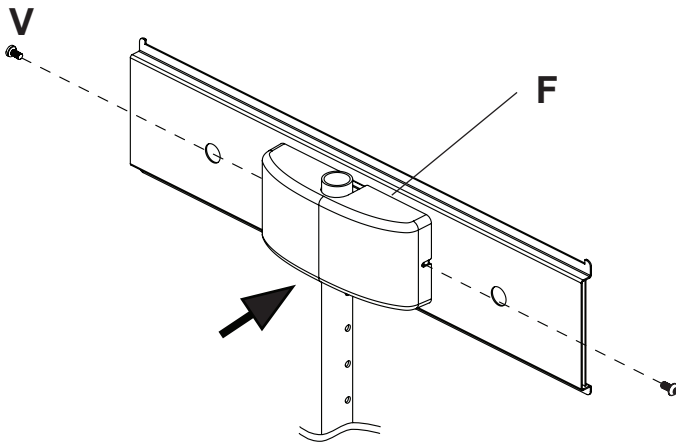
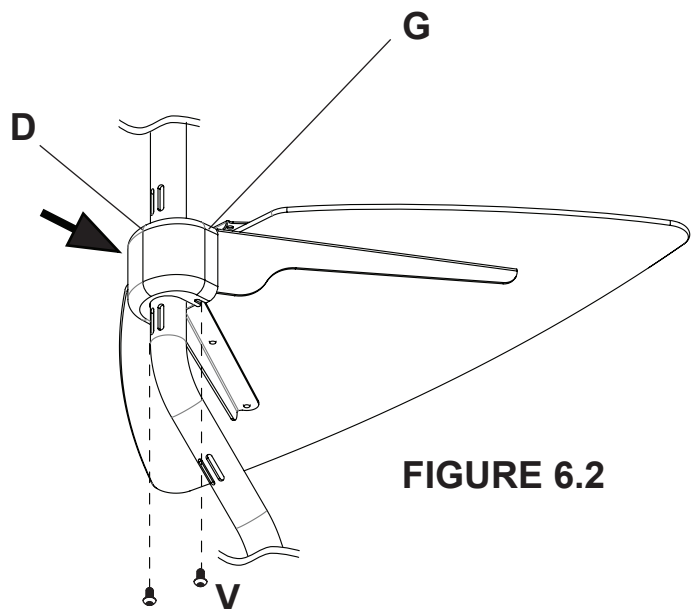

FIGURE 6.1
FIGURE 6.2
- 6** Attach top cover (**F**) to adapter support plate (**Q**) with two M5 x 10 mm socket pin screws (**V**) as shown in figure 6.1. Attach bottom cover (**G**) to clamp bracket (**D**) with two M5 x 10 mm socket pin screws (**V**) as shown in figure 6.2. Tighten using 4 mm allen wrench (**X**).